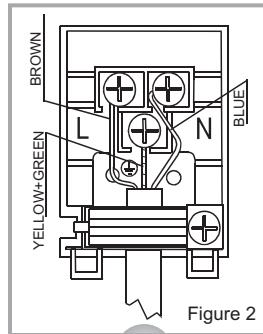

Figure 2
- The earthing cable must be connected via the screw with the earthing mark. Feeder cable connection must be as shown in Figure 2. If there is no earthed outlet conforming to regulations in the installation environment, call a qualified electrician to have one installed.